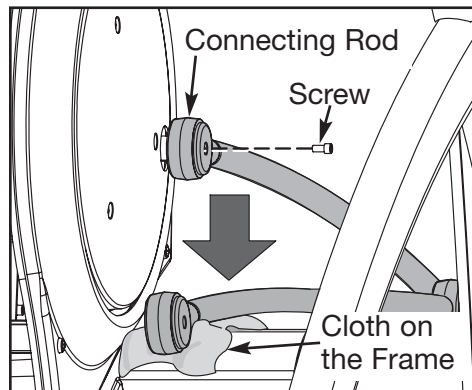

Figure 4
- A. Using a 3/16" hex key, remove the screw securing each connecting rod to each crank. See Figure 4.
C. Rest each rod on a cloth to prevent scratches. See Figure 4.